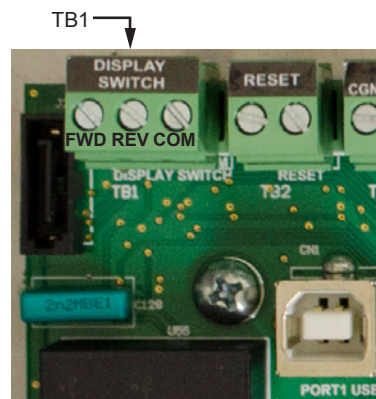

Figure E.13—Location of TB1 (display switch) showing wiring labels
11. Connect the display switch wires stripped in Step 9 to TB1 on the circuit board (Figure E.13) as follows: